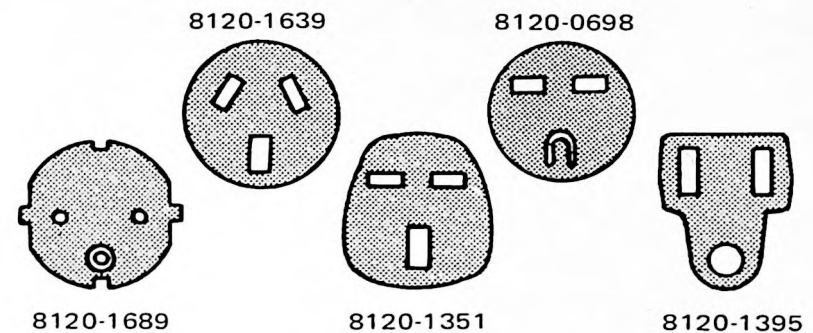

Figure 2-1. Power Receptacles
2-7. POWER REQUIREMENTS. The power cord required depends on, (1) the ac input voltage, and (2) the country in which the instrument is to be used. Figure 2-1 illustrates the standard power receptacle (wall outlet) configurations that are used throughout the United States and in other countries. The HP part number shown directly above each receptacle drawing is the part number for a power cord equipped with the appropriate mating plug for that receptacle. If the appropriate power cord is not included with the instrument, notify the nearest HP Sales/Service Office and a replacement cord will be provided.